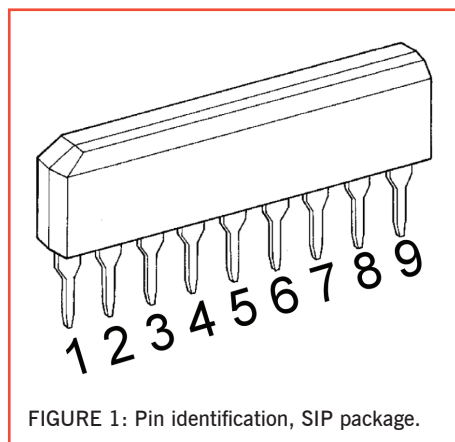

FIGURE 1: Pin identification, SIP package.
The heart of the device is an FM broadcast 'front end' IC. I used a Sanyo LA1185; the Toshiba TA7385 is a direct equivalent. A snoop on eBay in late June showed these devices were plentiful and about £1 or £2 each. It comes in a 9-pin in-line package (the chamfered end indicates pin 1, see **Figure 1**) and consists of an RF amplifier, double balanced mixer and local oscillator, which has a voltage regulator and buffer amplifier. For FM broadcast radios the local oscillator (LO) is usually a free-running LC type, used to tune the radio, but in this application I use a crystal oscillator.